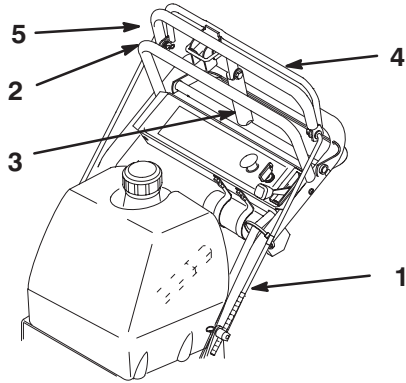

Figure 8
3. Check the gap between upper control bar and fixed bar with wheel drive fully engaged. Gap should be approximately 1 to 1-1/4 in. (25 to 32 mm) (Fig. 8).